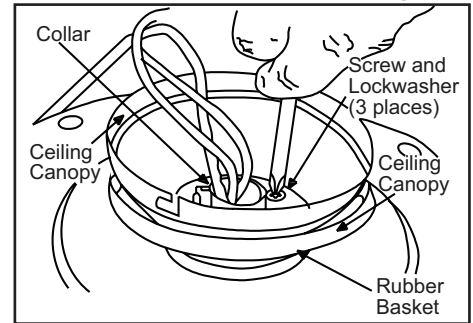

Figure 11
- Place the rubber gasket over the remaining three screws, route the wires exiting the top of the fan motor through the ceiling canopy over the collar at the top of the motor (Figure 11).
- Align the mounting holes with the holes in the motor and fasten, using the three screws and lock-washers removed in step 4 (Figure 11).